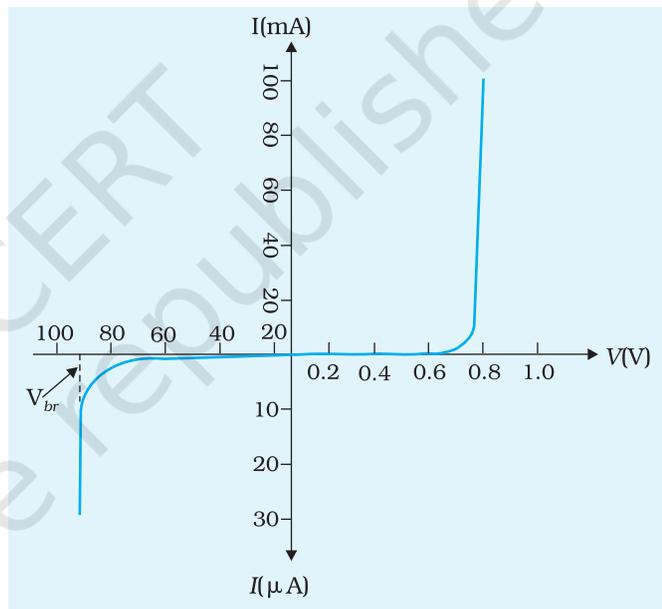

Fig. E 16.3 Typical I - V characteristics of a silicon diode in forward biasing and reverse biasing
1. Plot a graph between forward voltage across the diode (V_f) along the positive x-axis and current flowing through the diode (I) along the positive y-axis. The graph as shown in Fig. E 16.3 represents a typical I - V characteristic of a silicon diode used. Locate the knee and determine the cut-in voltage.
2. Now plot the reverse voltage (V_r) along the negative x-axis and the corresponding current (in μ A) along the negative y-axis as shown in Fig. E 16.3. Determine the reverse saturation current.